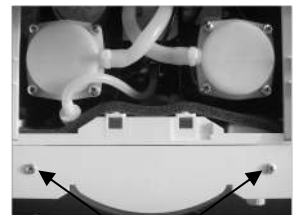
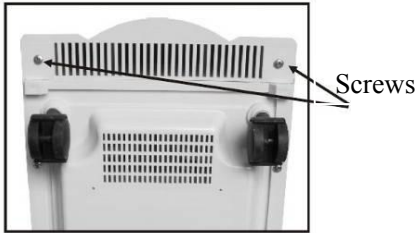

Figure 4
Figure 5
- Unscrew 2 screws in the top of panel.(Figure 4) .Make concentrator horizontal, unscrew 2 fixing screws in the bottom.(Figure5),and take off the panel.